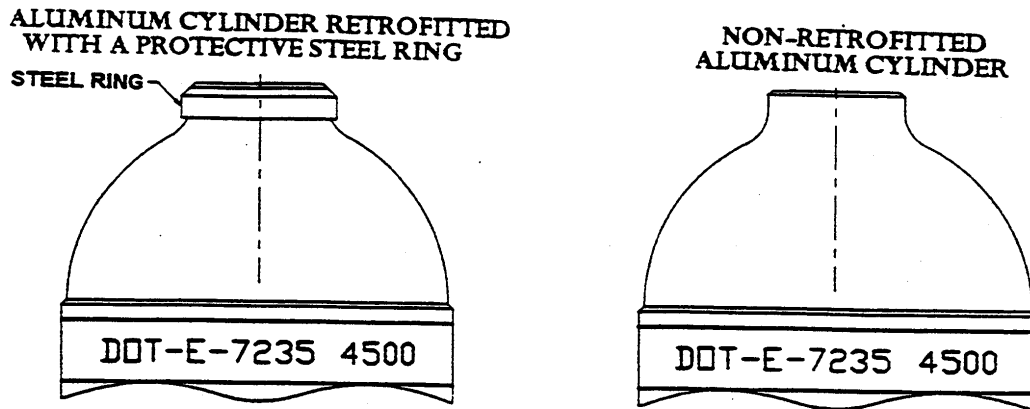

Figure 2. Protective Steel Ring Location
2. Examine the hoop wrapped cylinder for the protective steel ring on the cylinder neck as shown in Figure 2.